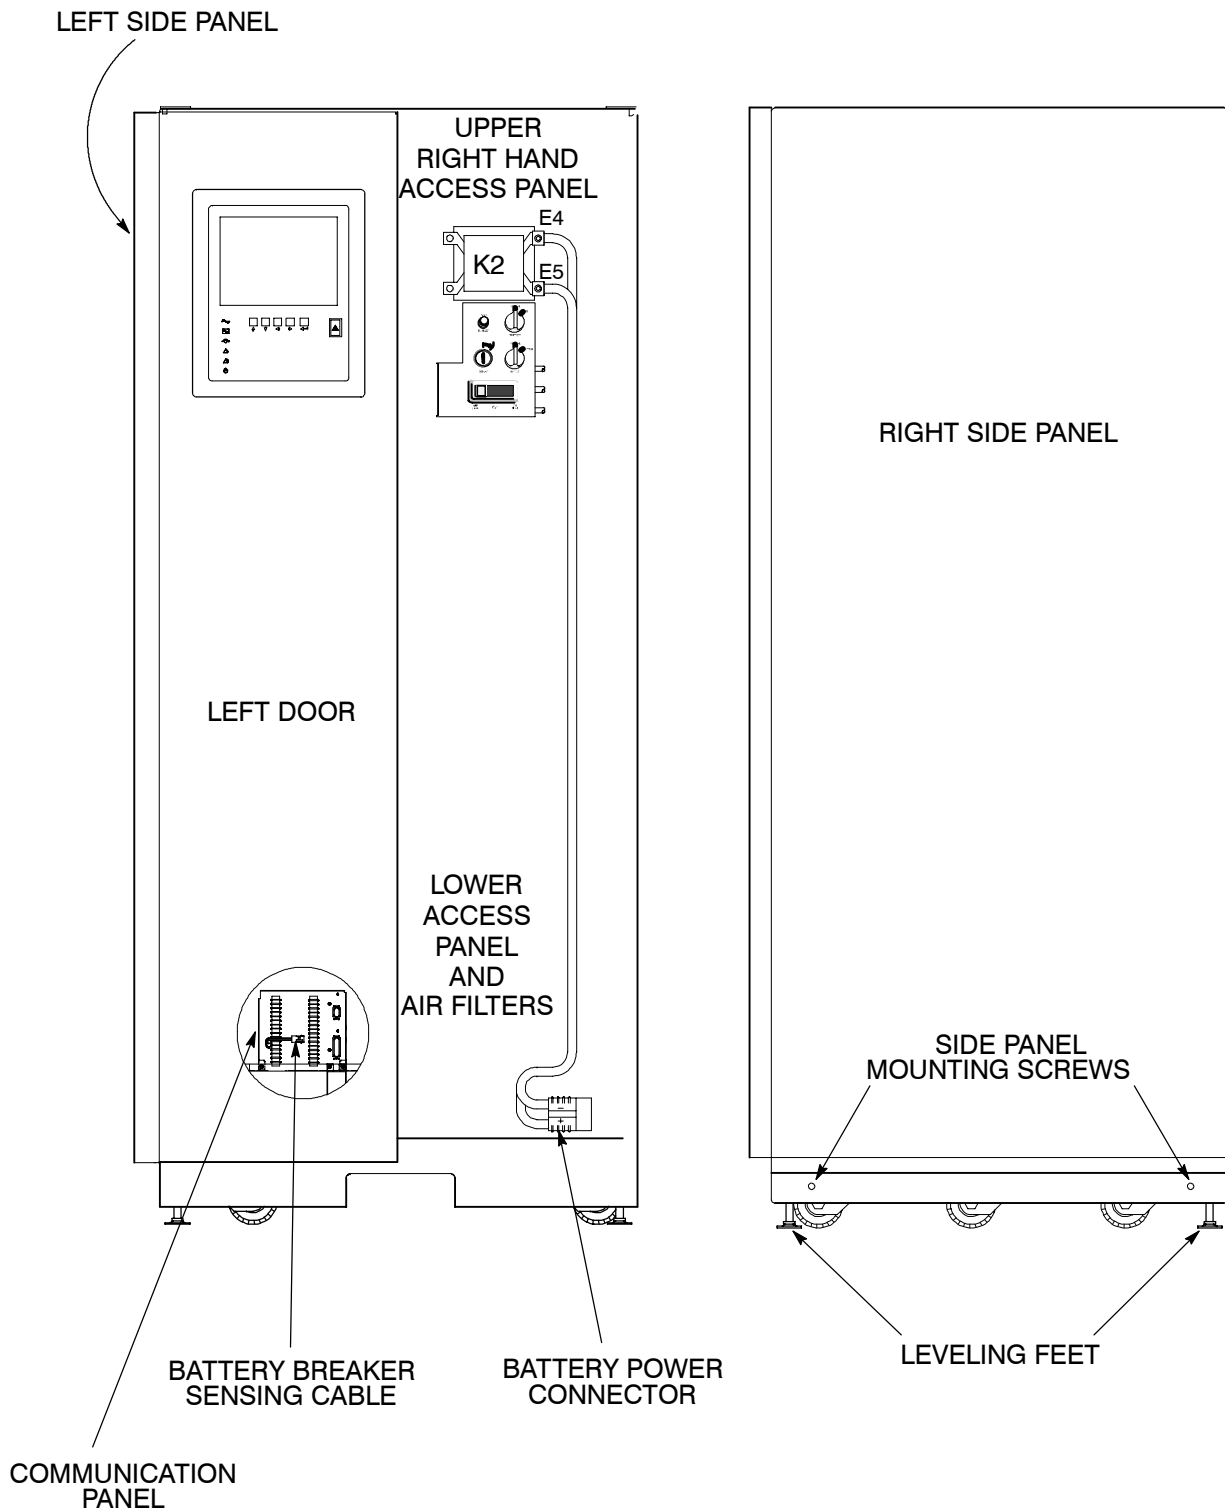

Figure 5. Preparing the UPS for Installing Other Cabinets
If you are installing optional cabinets or accessories, such as a PDM cabinet, an input transformer cabinet, or an RMP, you must prepare the UPS cabinet for the installation of these options. Refer to Figure 5 for the locations of the items mentioned in these procedures. Also, refer to *Powerware Series 685 and 1085 Auxiliary Battery Cabinets Installation* manual, 164200300, for information on installing battery cabinets.
5. Remove the lower metal access panel (see Figure 5 for location). Set the access panel and hardware aside for later reuse.
4. Remove the lower metal access panel (see Figure 5 for location). Set the access panel and hardware aside for later reuse.